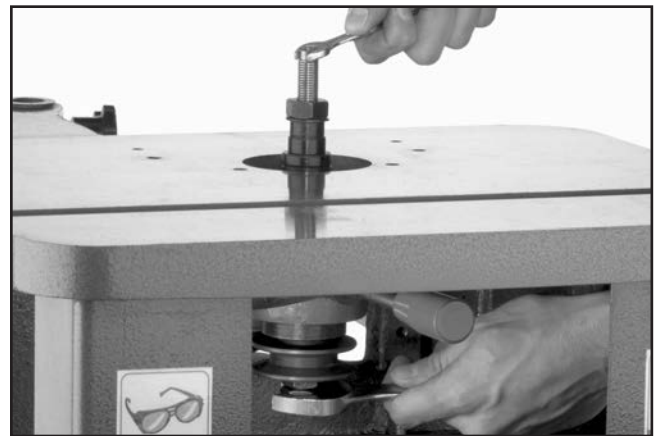

Figure 57. Loosening spindle cartridge nut.
4. Loosen (2) motor mount bolts, slide motor forward, and remove V-belt.
6. Remove cartridge nut on bottom of spindle, as shown in **Figure 57**, and slide pulley off.